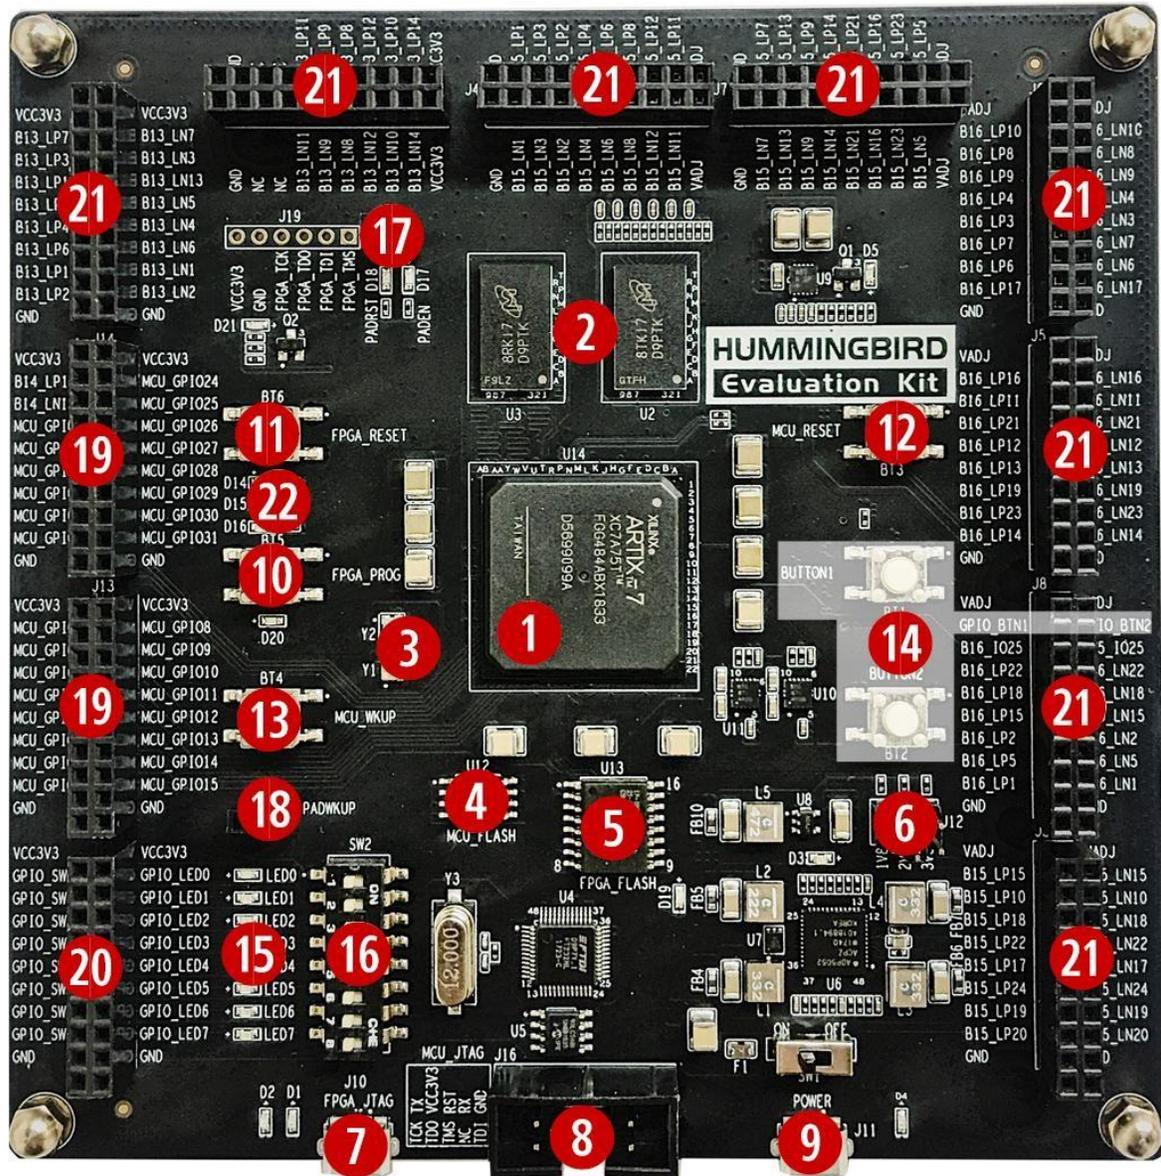
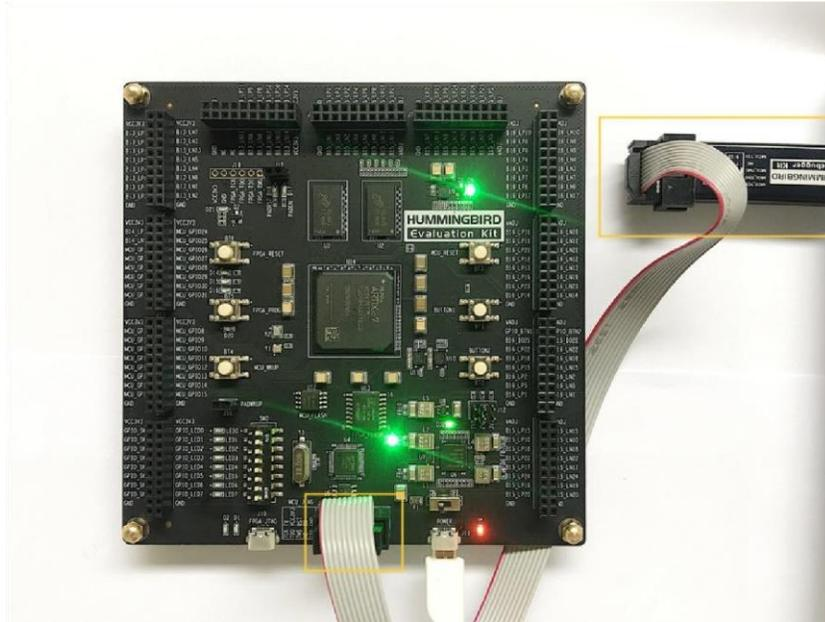

Figure 3-1 Board Hardware Resources
Figure 3-2 Connecting Hummingbird FPGA board and Debugger Kit with PC
Hummingbird Evaluation Kit is an entry-level FPGA board based on Xilinx FPGA, as depicted in Figure 3-1, the hardware resource (marked as with different numbers in above picture) of this board is described as follows.
- There is a separated SPI Nor Flash on the board (as depicted in the Figure 3-1 mark [4]), this SPI Nor Flash will be connected to the SoC’s SPI interface, which support the XiP mode. The RISC-V Core in the FPGA will start to fetch the instructions (with XiP mode) from this Flash after reset.
- The RTC clock is directly from the FPGA board 32.768KHz clock source (as depicted in the Figure 3-1 mark [3]).
- The high-speed clock is from the PLL output (in FPGA project). The original clock source of PLL is from the FPGA board 100MHz clock source (as depicted in the Figure 3-1 mark [3]).
- The SoC have the “System Reset” pin, and the FPGA project mapped the pin to the board MCU_RESET button, as depicted in the Figure 3-1 mark [12].
- The SoC have the “PoR Reset” pin, and the FPGA project mapped the pin to the board FPGA_RESET button, as depicted in the Figure 3-1 mark [11].
- The SoC have 32 GPIO pins, and the FPGA project mapped these GPIO pins to the board exposed connectors (with specific MCU_GPIOx names as depicted in the Figure 3-1 mark [19]).
- The SoC have JTAG pins and UART0 pins (pin-mux to GPIO_16 and GPIO_17 of the SoC), and the FPGA project mapped these pins to the board MCU_JTAG interface socket, as depicted in the Figure 3-1 mark [8]. The “Hummingbird Debugger Kit” can be connected to this socket, as depicted in Figure 3-2, and then be used to debug the RISC-V core (burned inside FPGA).
As described in Section 3.2.1, one of the purposes of “Hummingbird Evaluation Kit” is to be as the regular FPGA board. To achieve this goal, there are independent switches and LED lights, as depicted in the Figure 3-1 mark [14] [15] [16]. User can utilize these on-board resource to control the SoC, for examples as below:
- The switches (as depicted in the Figure 3-1 mark [16]) are independent there, without connecting to any others. User can use the jumper wire to connect it to MCU_GPIOx pins, then to use the switch to control the MCU_GPIO input value.
- The LED lights (as depicted in the Figure 3-1 mark [15]) are independent there, without connecting to any others. User can use the jumper wire to connect it to MCU_GPIOx pins, then to use the MCU_GPIO output value to control the LED lights.
- The buttons (as depicted in the Figure 3-1 mark [14]) are independent there, without connecting to any others. User can use the jumper wire to connect it to MCU_GPIOx pins, then to use the button to control the MCU_GPIO input value.
As depicted in the Figure 3-1 mark [5], the FPGA board has the SPI Flash to store FPGA's Bitstream (MCS format). If the users want to re-program the FPGA with the Bitstream file, Nuclei have provided the completed FPGA project (for each IP product), and then use Xilinx Vivado to generate the Bitstream file (MCS format).
After generating the Bitstream file (MCS format), then we can program it into the FPGA's SPI Flash (as depicted in the Figure 3-1 mark [5]).
depicted in the Figure 3-1 mark [10]), it will trigger the FPGA to load the Bitstream from